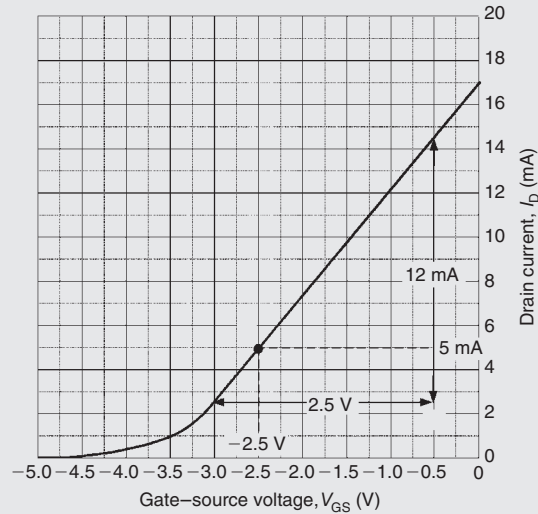

Figure 14.21
Problem 8. Fig. 14.21 shows the mutual characteristic for a junction gate field effect transistor. When the gate–source voltage is -2.5 V, determine (a) the value of drain current, (b) the dynamic value of forward transconductance.
- (a) From Fig. 14.21, when $V_{GS} = -2.5$ V, the **drain current, $I_D = 5$ mA**
- (b) From Fig. 14.21